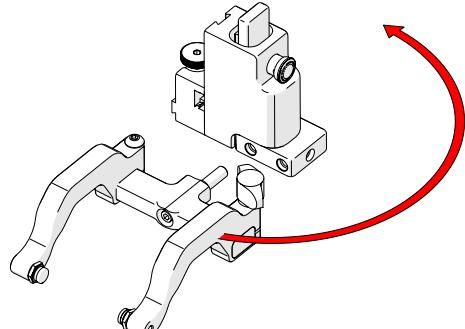

Fig. 128 - Orient to opposite side
12. Position the yoke and arms to the opposite side of the probe holder (Fig. 128).